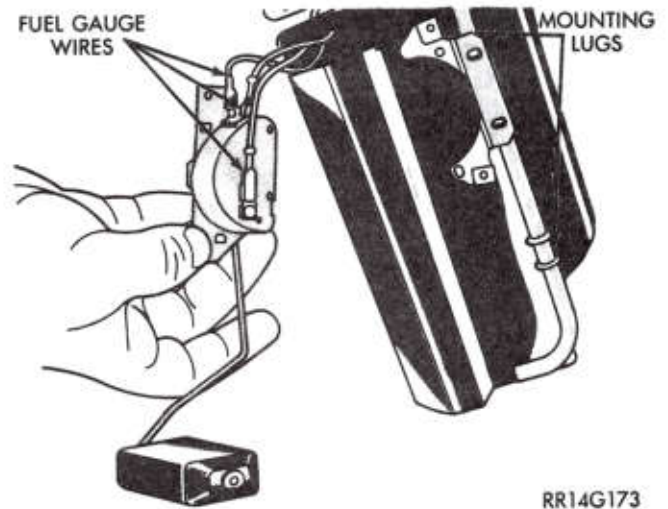

Fig. 13—Servicing Fuel Gauge Sending Unit
- (2) Disconnect electrical wires from level unit (Fig. 13).
- (3) Reverse above procedure for installation.